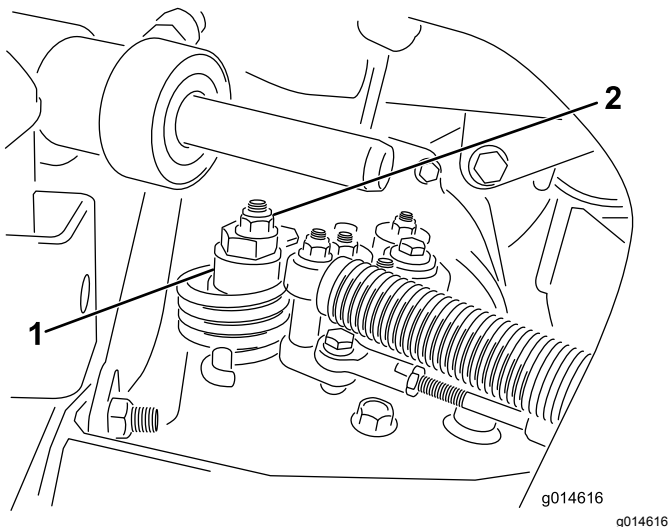

Figure 47
- A. Loosen the nut securing the eccentric to the top of the hydrostat (Figure 47).
- C. Rotate the eccentric until creep does not occur in either direction. When the wheel stops rotating, tighten the nut locking the eccentric and the adjustment (Figure 47). Verify the adjustment with the throttle in the Slow and Fast position.